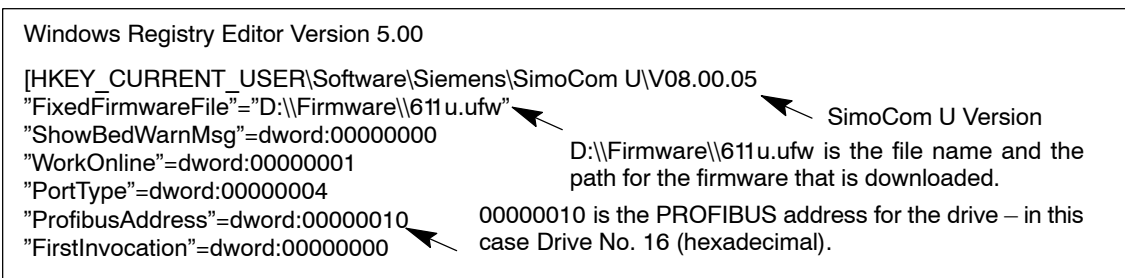

Fig. 4-2 Text example for the ".reg" file when connected via PROFIBUS DP
1. Edit the .reg file and carry-out the settings (refer to Fig. 4-2).